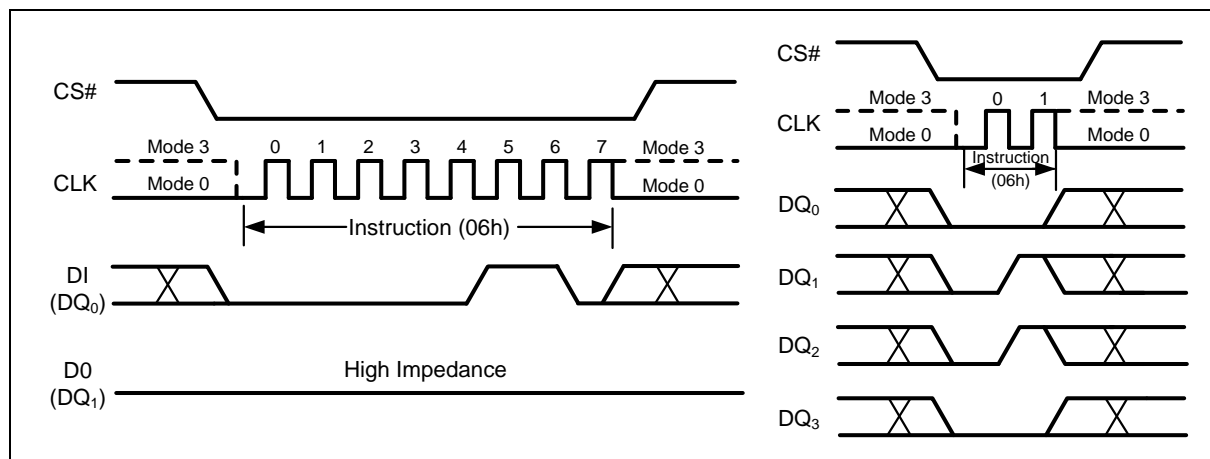

Figure 12 Write Enable Instruction for SPI Mode (left) or QPI Mode (right)
The Write Enable (WREN) instruction (Figure 12) sets the Write Enable Latch (WEL) bit in the Status Register to a 1. The WEL bit must be set prior to every Page Program, Quad Page Program, Sector Erase, Block Erase, Chip Erase, Write Status Register and Erase/Program Security Sectors instruction. The Write Enable (WREN) instruction is entered by driving CS# low, shifting the instruction code “06h” into the Data Input (DI) pin on the rising edge of CLK, and then driving CS# high.